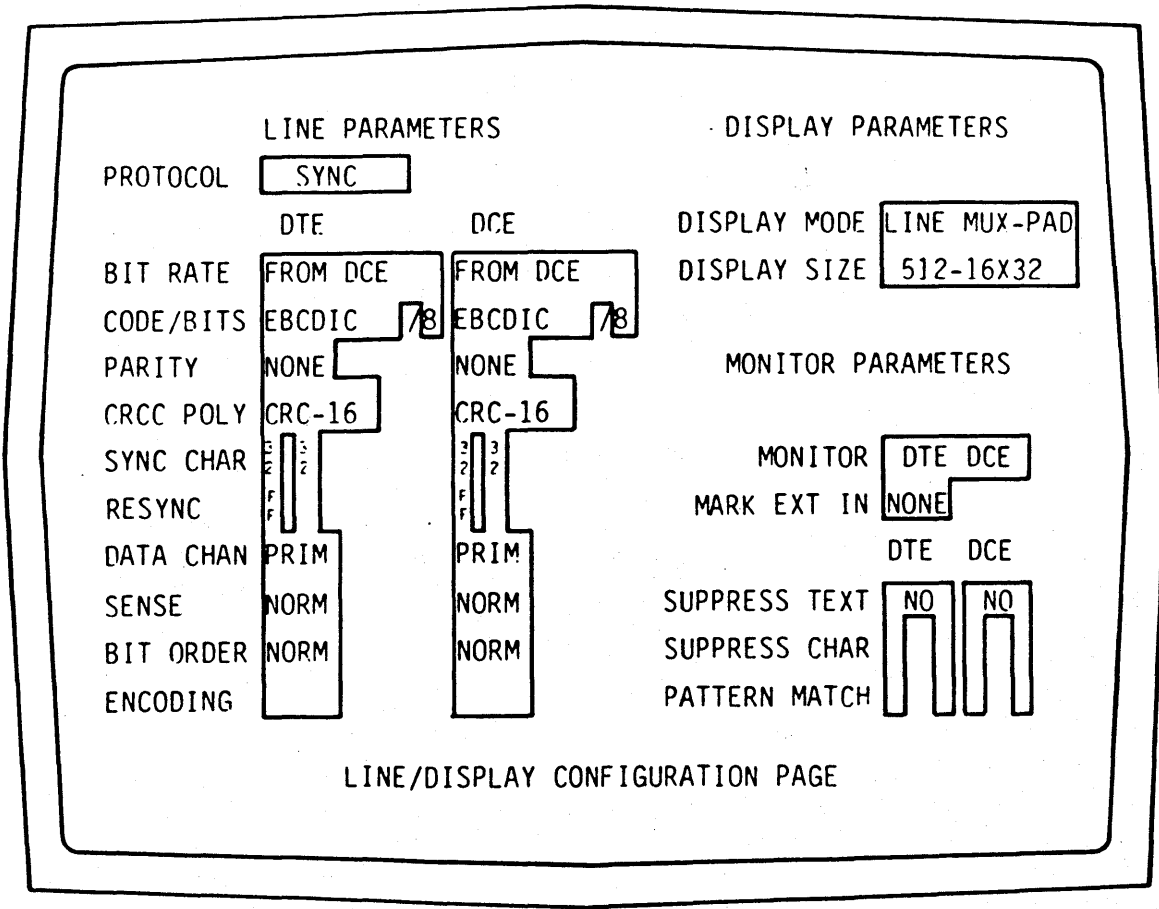

Figure 2. Line/Display Configuration Page
(b) Press 1 to select the line/display configuration page. The line display configuration page is displayed. (See figure 2.)
- (b) Press 1 to select the line/display configuration page. (See figure 2.)
- (b) Press 1 to select the line/display configuration page. The line/display configuration page is displayed. (See figure 2.)
7.17 Mark External EIA Input. This parameter permits monitoring of a selected EIA lead and marking of the displayed data upon the occurrence of a positive transition (UP), negative transition (DOWN), marking (MARK) condition, or spacing (SPACE) condition. The default condition is NONE. Selection is similar to monitor selection described in paragraph 7.16. Position the cursor in the MARK EXT. EIA IN field and press STEP to display the desired condition.